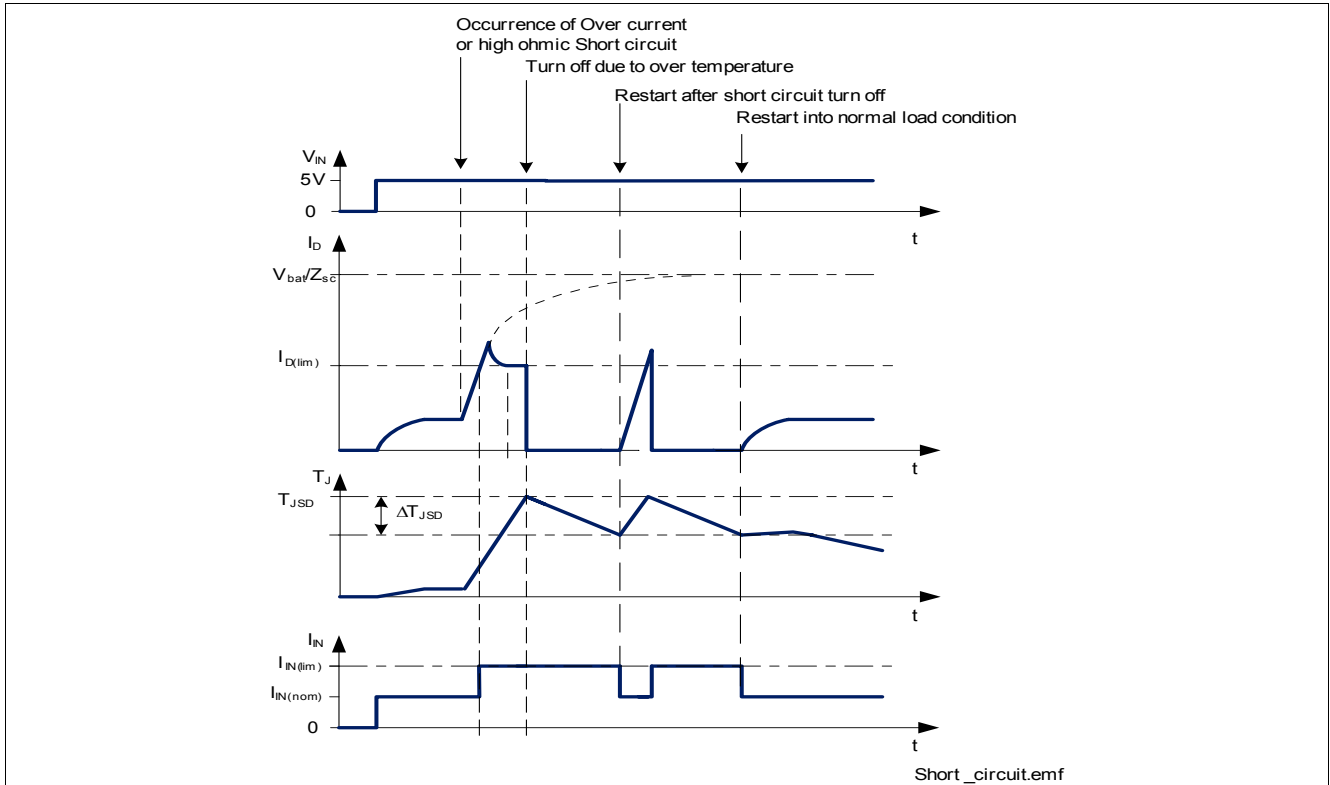

Figure 16 Short circuit protection via current limitation and over temperature switch off
Figure 16 shows the inductance / current combination the BTS3104SDR can handle.
**Figure 16** shows this behavior.